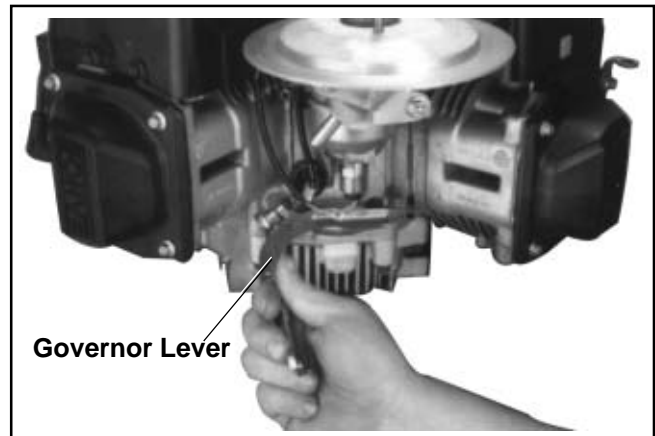

Figure 9-16. Removing Governor Lever.
1. Loosen the hex. flange nut and remove the governor lever from the cross shaft. See Figure 9-16. Leave the lever attached to the throttle linkage.